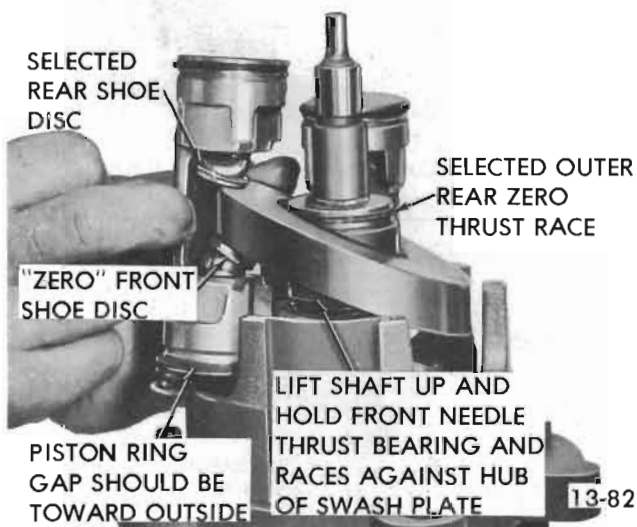

Figure 13-57 Installing Piston Assembly in Front Cylinder Half
3. Rotate shaft and swash plate assembly until high point of swash plate is over No. "1" cylinder bore. Position No. "1" piston onto swash plate (see Figure 13-57) and lower the piston and swash plate so that the front end (notched end) of the piston enters the cylinder bore.